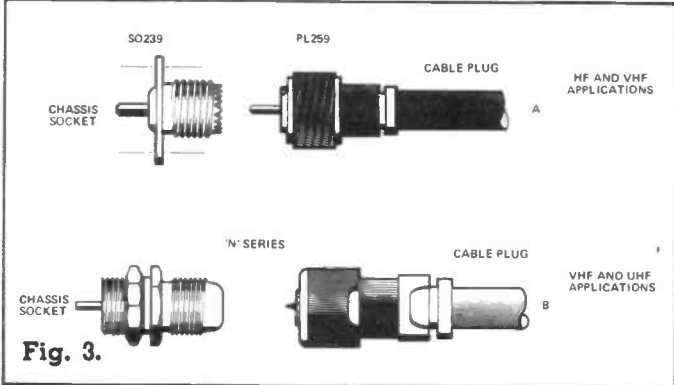

Fig. 3.
6. Use good quality connectors, such as the PL259 plug, SO239 chassis socket or the 'N' series fittings specially designed for UHF applications. See Fig 3.